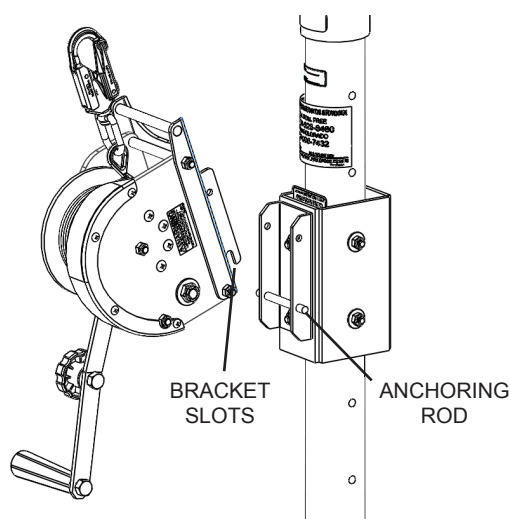

Figure 5c: PH Series Hoist Mounting
- ii) Attach the hoist to the quick connect mounting bracket. Raise the hoist so that the slots on the quick release bracket of the hoist can slide onto the anchoring rod on the quick connect mounting bracket. See Figure 5c.